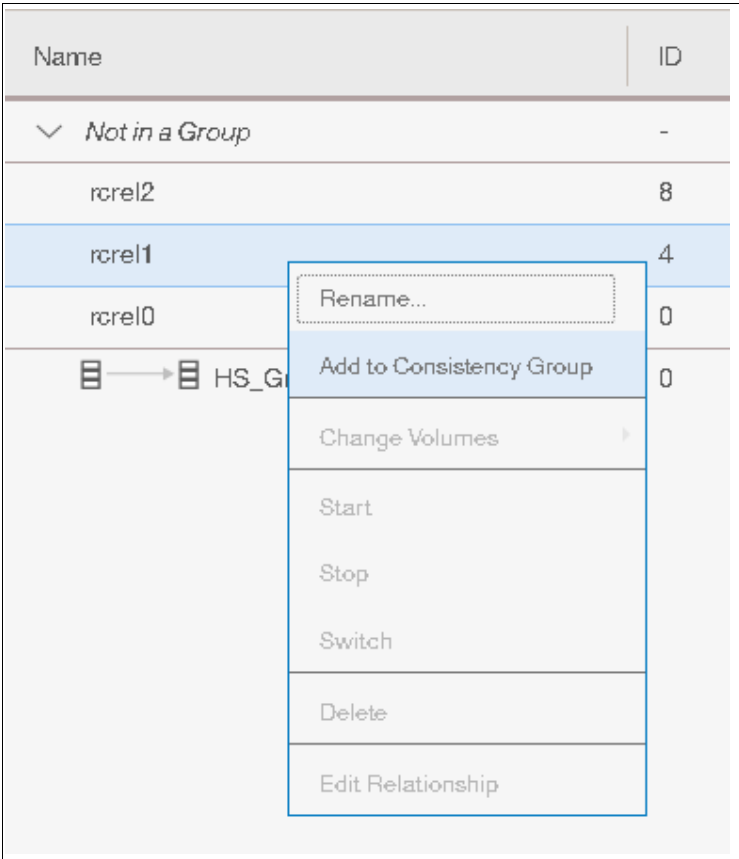

Figure 6-31 Adding remote copy relationships to a consistency group.
3. Select the remote copy relationships you want to move to the consistency group and add them to the consistency group by using the **Actions** menu of the remote copy relationships (Figure 6-31).